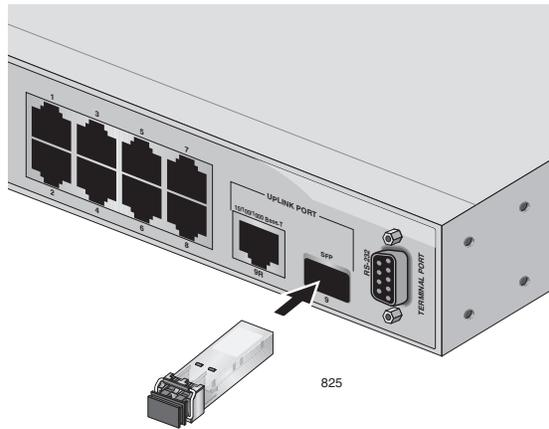

Figure 10. Inserting the SFP
- Slide the SFP transceiver into an SFP slot on the switch, as shown in Figure 10.